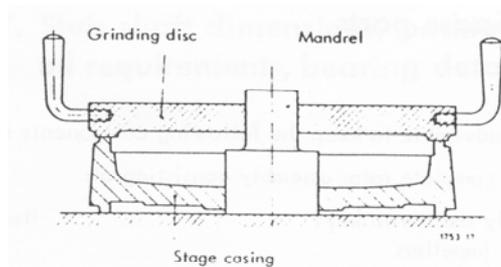
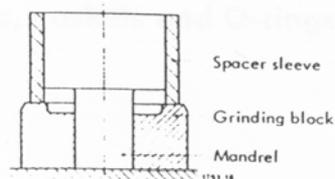

Fig. 22
Fig. 23
2. Gasket or metal-to-metal sealing faces damaged.	If the leakage cannot be cured by tightening the tiebolts, new gaskets should be inserted or the metal mating faces should be touched up (fig.22).
Proceed as described in section 5.2.1. with the necessary modifications. The highest degree of cleanliness should be observed during assembly of the mating parts. Before assembly is commenced, all the mating faces must be carefully examined. Should they not be perfectly smooth and true, they must be ground manually by means of special cast iron grinding blocks (Figs. 22 and 23).
Fig. 22 illustrates a grinding disc for stage casing, and fig. 23 the grinding tool used for regrinding the rotating parts; the latter is designed as a bushing (socket), since only thus can it be ensured that the ground surfaces are fully perpendicular to the axis of the shaft. The abrasive material (grinding paste) used must be of a high grade fine grained quality.